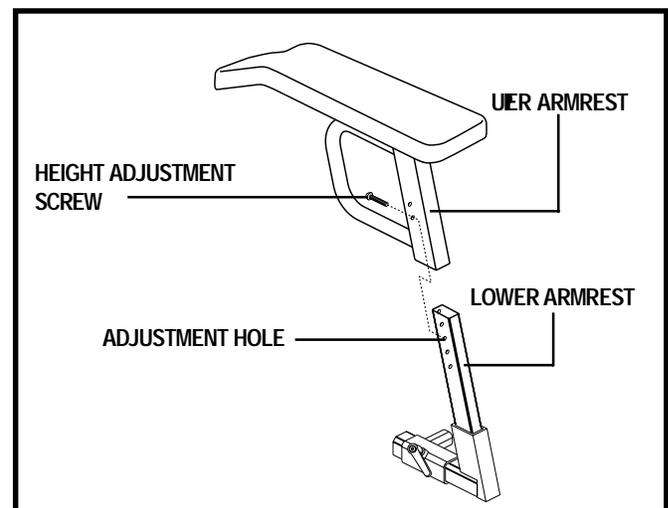

Figure 18. Armrest Height Adjustment
1. Remove the height adjustment screw from the armrest. See figure 18.